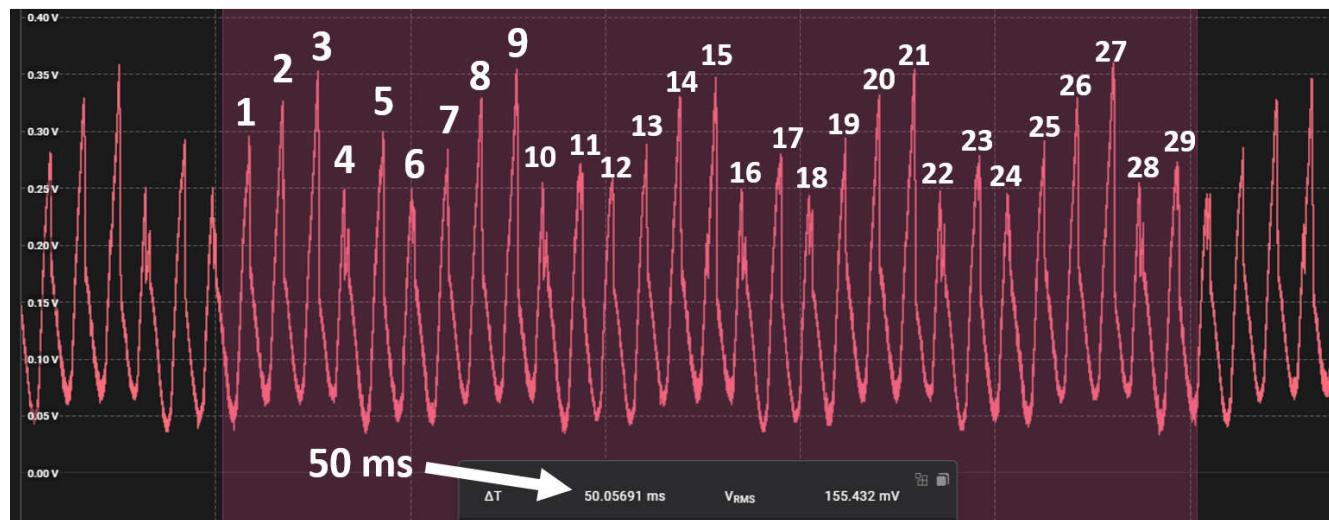

Figure 3-9. Electrical Ripple Speed Measurement
3. Capture at least 50 milliseconds of current waveform. Count the number of peaks as shown in Figure 3-9. Input the number of peaks into the *Number of Ripples Manually Calculated* box, and enter the capture time (ex. 50ms) into the Count Duration box. TI recommends counting at least 20 ripples for a given motor.